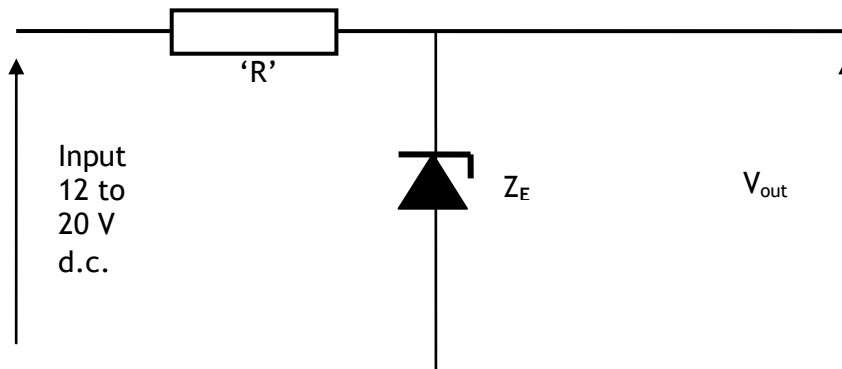

Fig Q3
- Calculate the time after switching on the supply for the relay to close if it requires a current of  $0.25 \text{ A}$  to operate. (6)
- Calculate the energy stored in the coil at the time of operation. (4)
- Calculate the time delay before operation if a resistor of  $6 \Omega$  is connected in series with the relay coil and it is operated from  $15 \text{ V}$  supply. (6)
3. Fig Q3 shows a basic voltage stabiliser circuit intended to give a regulated output of  $8 \text{ V d.c.}$  from an unregulated input which can vary between  $12 \text{ V}$  and  $20 \text{ V}$ .